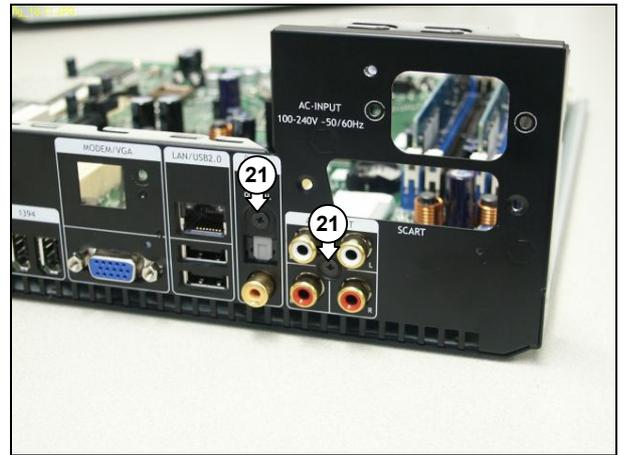

Figure 12.15-13
7. Remove the 2 mounting screws (21) from the motherboard tray back plate. See Figure 12.15-13.